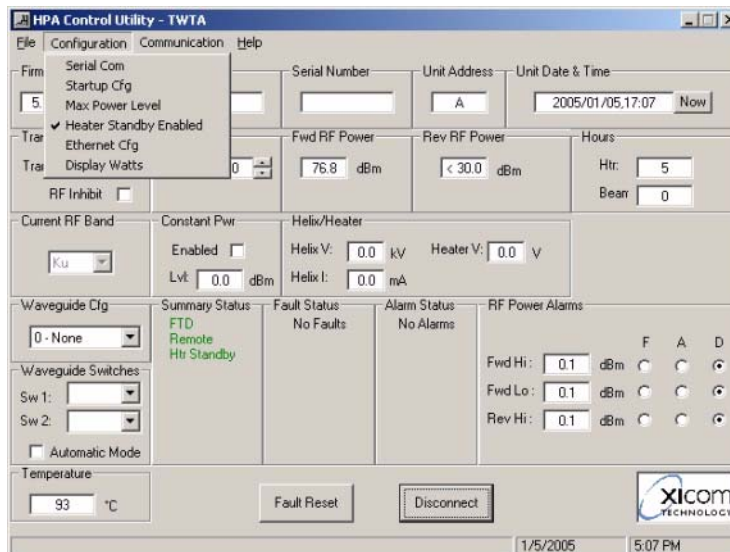

Figure 10, Heater Standby Control
8. Refer to Figure 10. When selected, the Heater Standby option will reduce the voltage applied to the TWT heater circuit when the amplifier is in standby mode, which will increase the life of the tube. If the amplifier is commanded into the transmit mode the voltage will automatically change to the correct operating voltage for the heater.